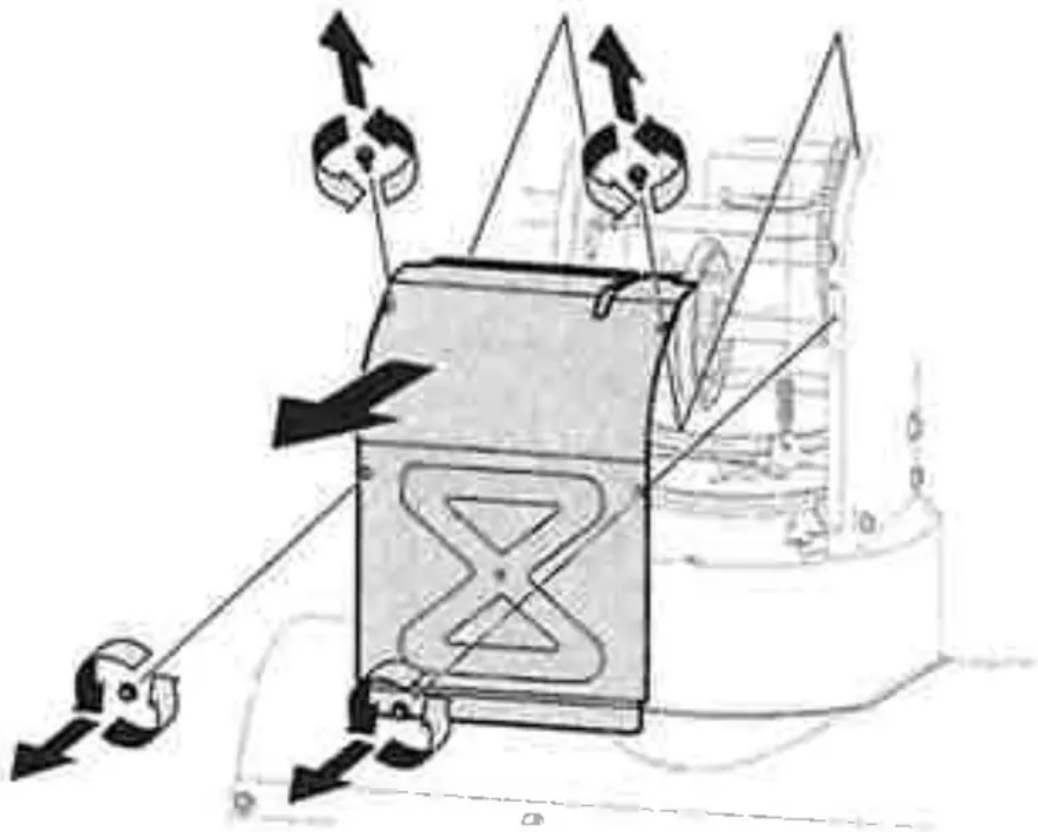

Figure 78
3. Remove frame cover from underside by removing self-tapping screws (Figure 78).
5. Remove frame cover from underside by removing self-tapping screws (Figure 78).
3. Remove frame cover from underside by removing four self-tapping screws (Figure 78).
5. Using the four self tapping screws, reinstall the frame cover (Figure 78).
4. Remove frame cover from underside by removing self-tapping screws (Figure 78). Remove right-hand wheel by removing screw and bell washer which secure it to axle.